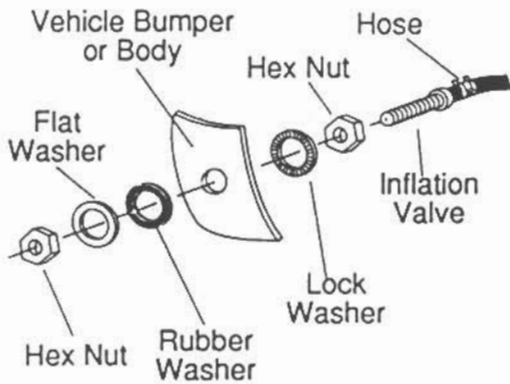

Figure 8
- H. Drill a 5/16" hole for inflation valves and mount as illustrated. Rubber washer is for outside weather seal (fig.8).
L. Drill a 5/16" hole for inflation valve and mount as illustrated. Rubber washer is for outside weather seal (fig.8).